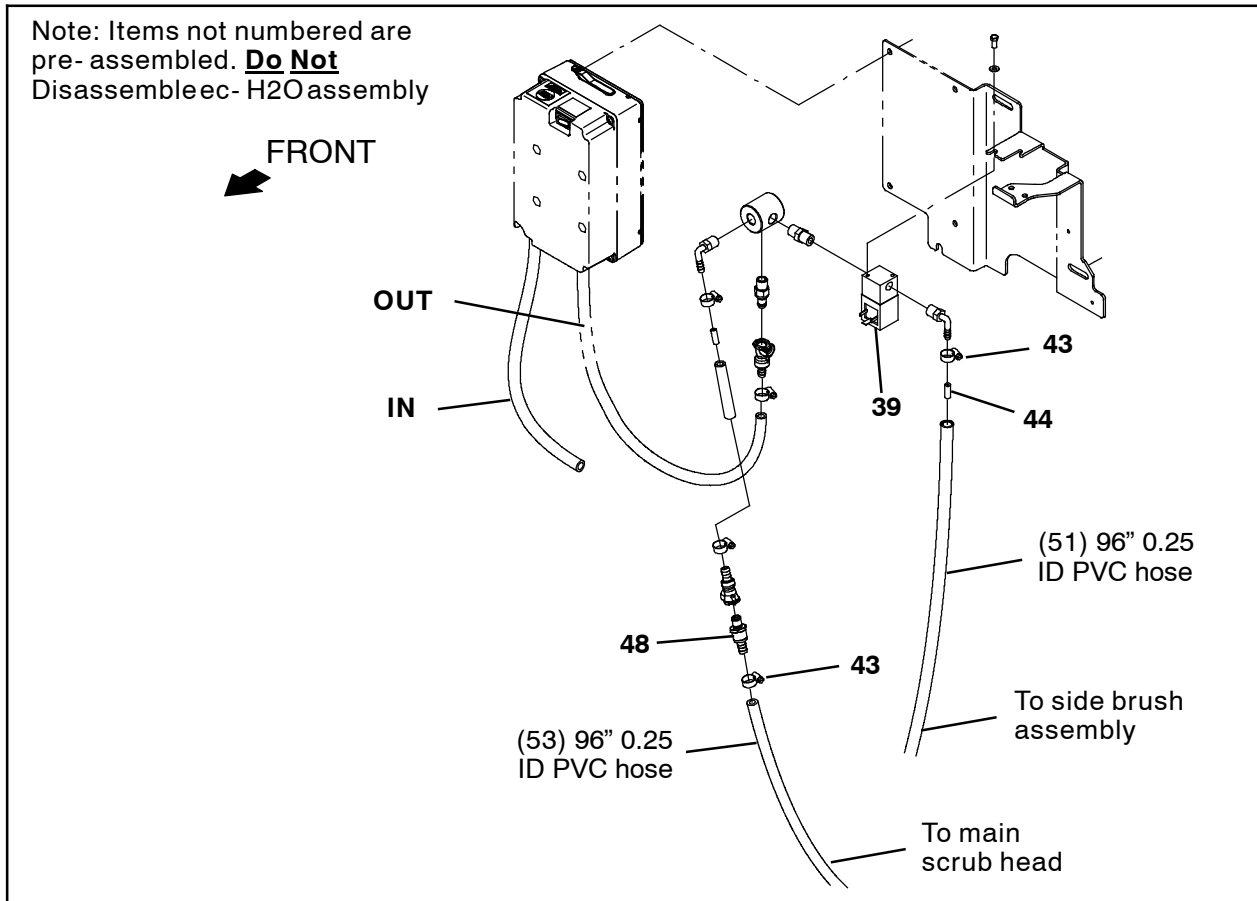

FIG. 10
6. Use a hose clamp (43) to install a plastic straight fitting (48) onto one end of the 96" 0.25" diameter PVC hose (53). (Fig. 10)
7. Connect the 96" 0.25" diameter PVC hose (53) assembly assembled in the previous step to the ec-H2O assembly. (Fig. 10)
8. Insert a plastic restrictor fitting (44) into one end of another 96" 0.25" diameter PVC hose (51). (Fig. 10)
9. Use a hose clamp (43) to connect the end of the 96" 0.25" diameter PVC hose (51) with the restrictor fitting (44) to the water solenoid valve (38). (Fig. 10)